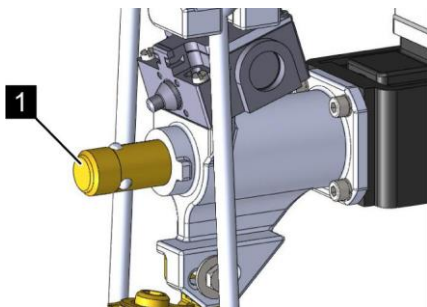

Fig. 153: Release pin
5. ➤ Check whether the release pin (Fig. 153/1) projects on the EM release device.